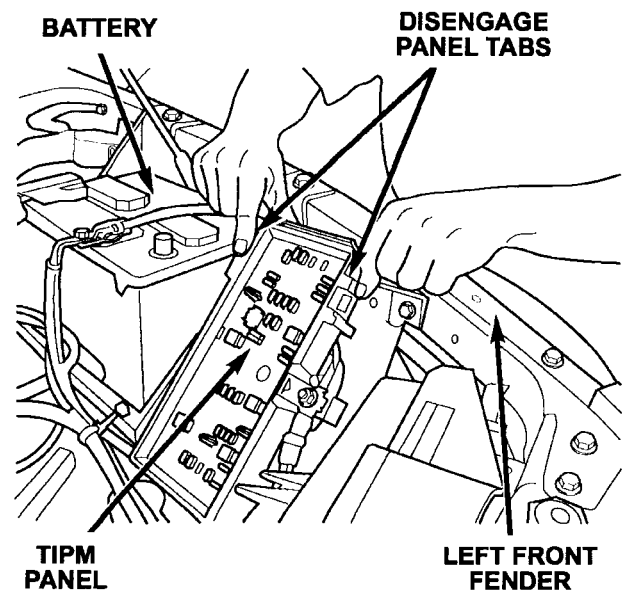

Figure 7
28. Disengage the tabs on the upper end of the TIPM and rotate the TIPM panel forward, exposing the wiring and connectors on the back side of the TIPM panel (Figure 7).